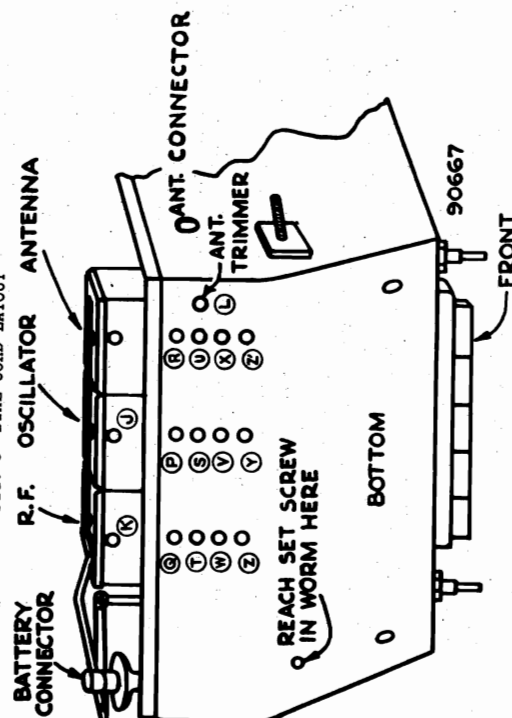

FIG. 6--TRIMMER LOCATIONS
- (b) Turn each of the three core screws (Illus. G, H, & I, Fig. 6) in a counter-clockwise direction 8 TURNS. (This is done in order to separate the cores from the coil windings far enough so that the cores will have no effect on the frequency of the circuits.)
- (e) Adjust the frequency of the signal generator to exactly 1590 K.C. and peak trimmers (Illus. J, K & L, Fig. 6) for maximum signal output, at the same time reducing the signal generator output to as low a value as is consistent with a reliable indication on the output meter.
- (k) Adjust the antenna and R.F. trimmers (Illus. L & K, Fig. 6) for maximum output.
- (d) Turn iron trimmer core screws (Illus. R, U, X, Z, Q, T, W, Z, P, S, V, Y, Fig. 6) in a counter-clockwise direction as far as they will go.
- (g) Turn core screw (Illus. P, Fig. 6) in a COUNTERCLOCKWISE direction until the FIRST peak is obtained and adjust carefully for maximum reading on the output meter.
- (h) Turn core screw (Illus. Q, Fig. 6) in a clockwise direction until the SECOND peak is obtained if more than one peak can be found and adjust for maximum reading on the output meter, at the same time reducing the signal generator output to as low a value as is consistent with a reliable indication on the output meter.
- (i) Adjust core screw (Illus. R, Fig. 6) as in (h) above.
- (k) Adjust core screw (Illus. S, Fig. 6) as in (g) above.
- (l) Adjust core screws (Illus. T & U, Fig. 6) as in (h) above.
- (n) Adjust core screw (Illus. V, Fig. 6) as in (g) above.
- (o) Adjust core screws (Illus. W & X, Fig. 6) as in (h) above.
- (q) Adjust core screw (Illus. Y, Fig. 6) as in (h).
- (r) Adjust core screws (Illus. Z & Z1, Fig. 6) as in (g).
The most satisfactory method of aligning or checking the "Spread-Band" ranges is on actual reception of short wave stations of KNOWN FREQUENCY, by adjusting the iron oscillator coil for each band (Illus. P, S, V & Y, Fig. 6) so that these stations come in at the correct points on the dial. (Note: Repeat R, F & Ant.).